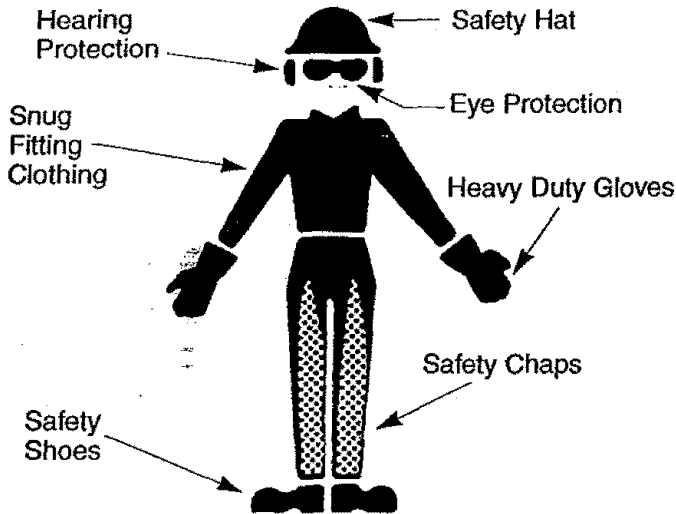

Figure 1
- **Wear protective gear.** Figure 1. Always use steel-toed safety footwear with non-slip soles; snug-fitting clothing; heavy duty, non-slip gloves; eye protection such as non-fogging, vented goggles or face screen; an approved safety hard hat; and sound barriers – ear plugs or mufflers to protect your hearing. Regular users should have hearing checked regularly as chain saw noise can damage hearing.